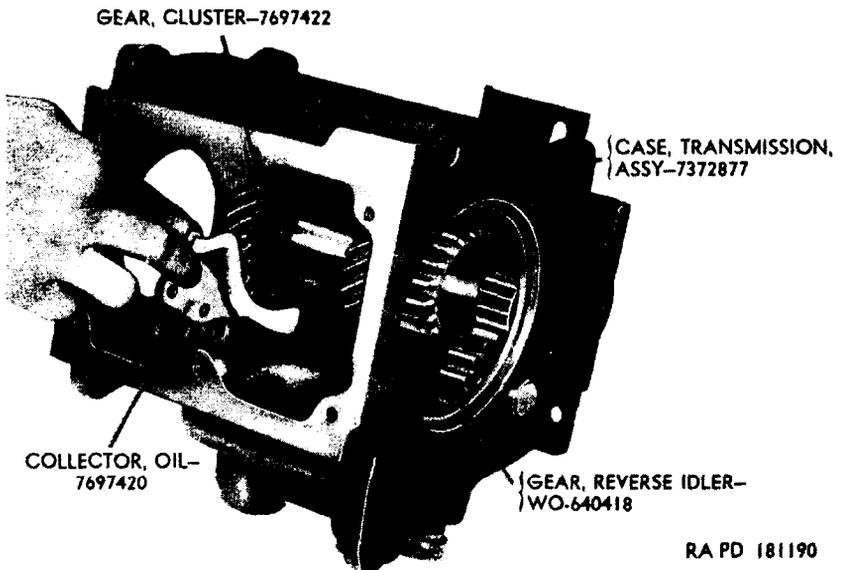

Figure 54. Removing transmission countershaft cluster gear oil collector.
- (4) *Reverse*. Power flow is from input shaft (A) to reverse idler shaft gear (fig. 54), to first and reverse speed sliding gear (W), and to main shaft (CC).
b. Remove Countershaft Cluster Gear Oil Collector (fig. 54). Remove two socket-head bolts and gaskets securing countershaft cluster gear oil collector to transmission case. Lift the collector from the transmission case assembly. produced by Military Media Inc., copyright 1999